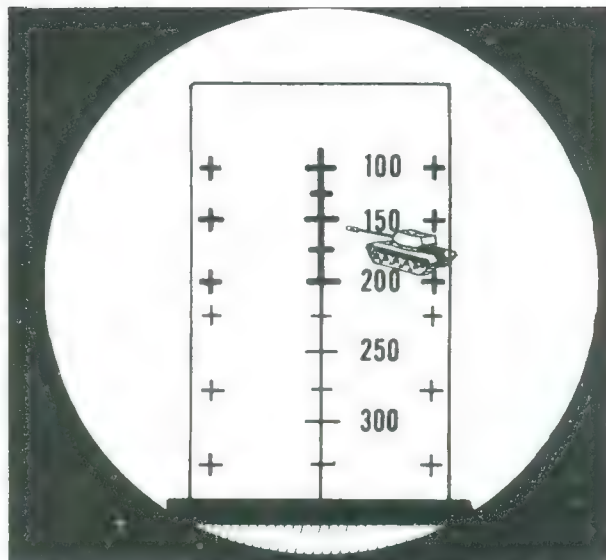
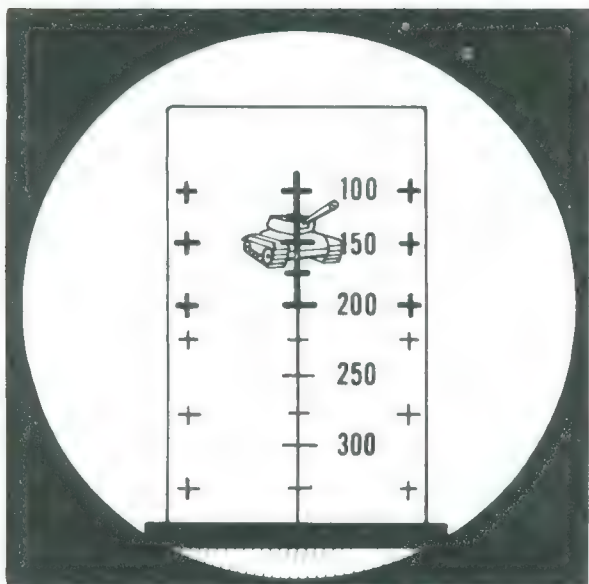

Figure 19. Target moving at an angle away from gunner, 175 meters, 20 miles per hour, at an angle of 45° or more (more side than end showing).
Figure 18. Target moving toward gunner, 150 meters, at an angle of 45° or less (more front than side visible).
- (4) *Targets moving at an angle toward or away from the gunner.* When the target is moving toward the gunner at an angle where more of the front of the target is visible than the side (0° – 45°) the gunner should estimate the range to the target and place that range on the target's center of mass (fig. 18). If the target is moving at an angle where there is more of the side visible than front (45° – 90°) the gunner would estimate the range, estimate the speed it appears to be moving, and apply one-half the lead to the center of mass (fig. 19).